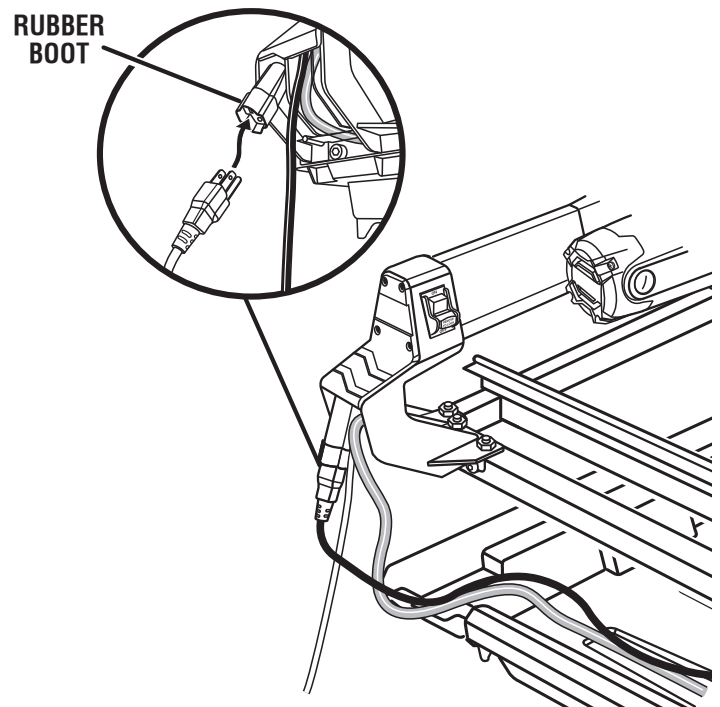

Fig. 14
- Place the water pump's electrical cord under the frame rails and over the left side of the frame as shown in figure 14.